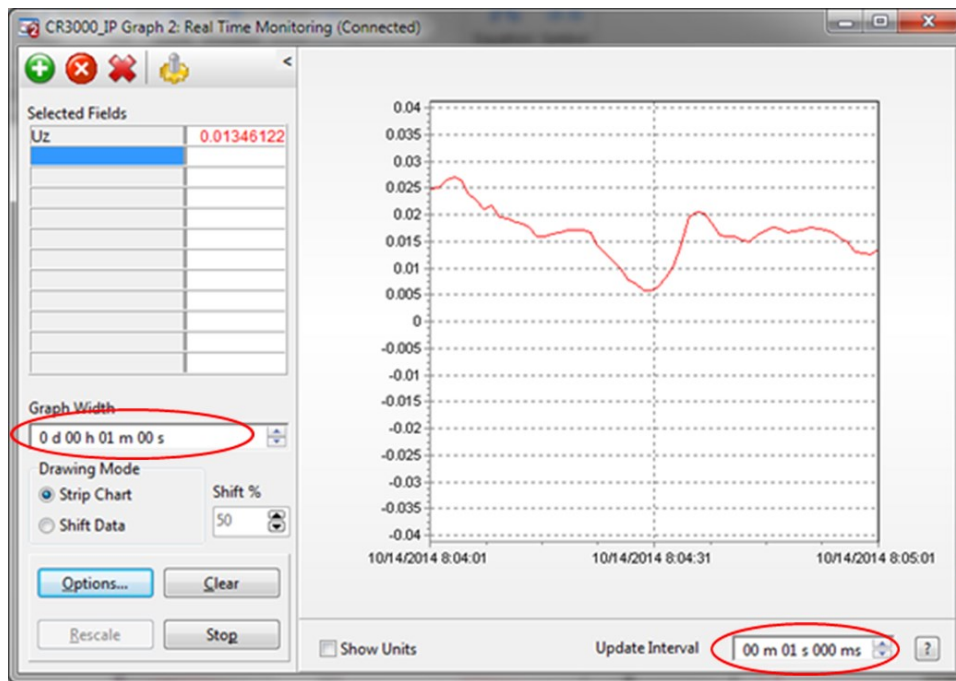

FIGURE 8-5. CSAT3BH real-time data with 1 sec update and u_z wind component graphed
- b. On the second graph, add the u_z wind component and set the y limits from -0.04 to 0.04 as shown in FIGURE 8-5 (p. 88).